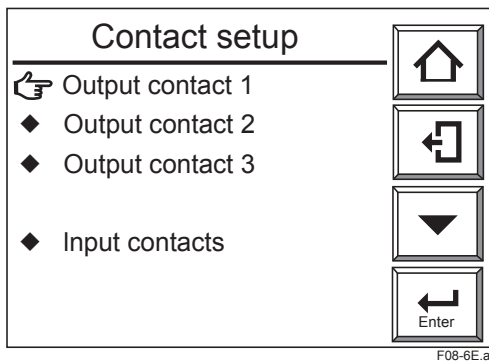

Figure 8.6 "Contact Setup" Display
- (1) Press the [Setup] key in the Basic panel display to display the Execution/Setup display.
- (2) Select the "Commissioning" in the Execution/Setup display. The Commissioning display then appears.
- (3) Select the "Contact setup" in the Commissioning display. The Contact setup display shown in Figure 8.6 then appears.